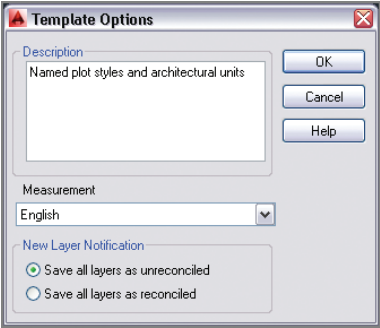

FIGURE 14.16 Describing the template
6. Type **Named plot styles and architectural units** in the Template Options dialog box that appears (see Figure 14.16). Click OK.